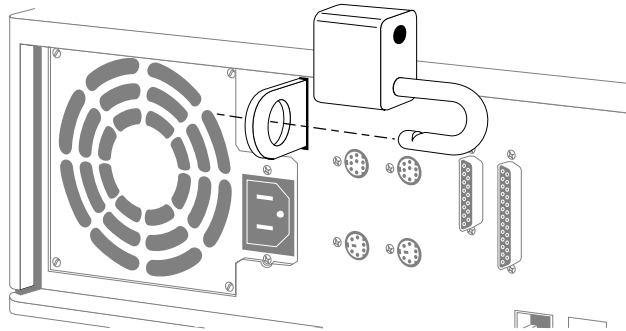

Figure 2-38 Locking the Indigo² Workstation
3. Attach a lock through the hole in the lockbar in the back of the system to lock the system, as shown in Figure 2-38.